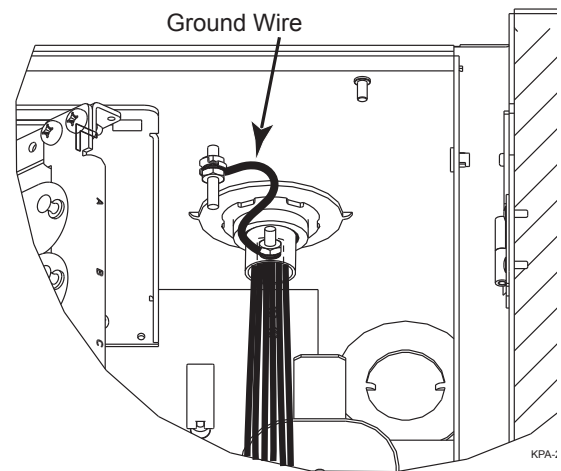

Figure 17
- Step 2:** Attach the other end of the ground wire to the ground stud inside the cabinet (Figure 17).